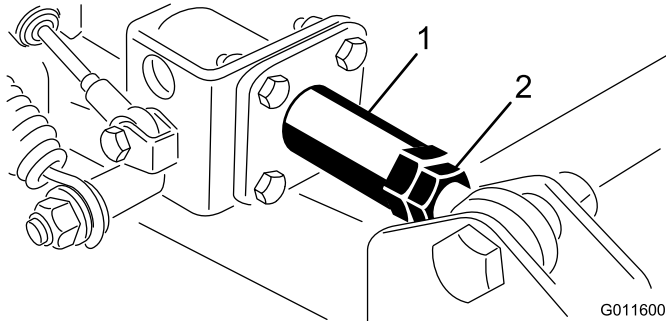

Figure 8
- D. If misalignment is detected, loosen the jam nut on the rod-end of the wing deck shock arm assembly (Figure 8). Adjust coupler to correct, which will freely rotate inside the shock absorption tube. All adjustments must be made with the rod end of the shock arm bolted to the deck.